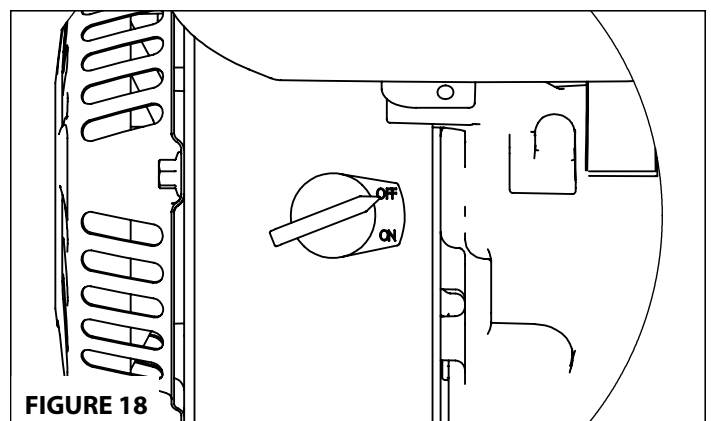

FIGURE 18
1. Move ON/OFF switch to OFF position. **SEE FIGURE 18.**